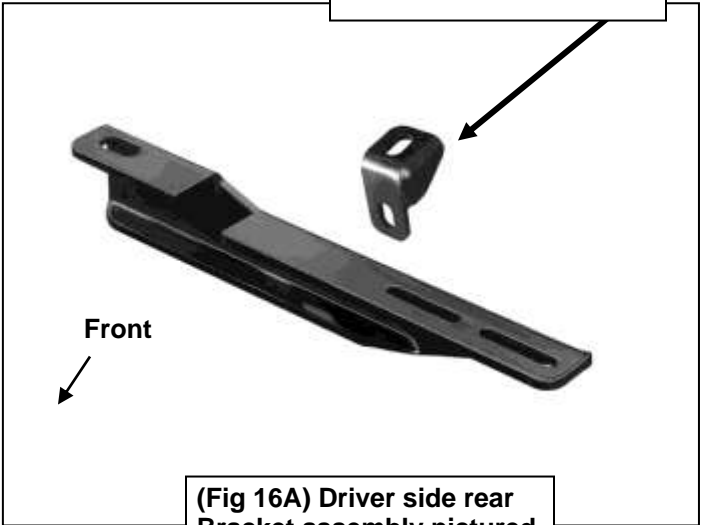

Fig 15A
12. Select (1) 10mm x 35mm Long Bolt Plate, **(Figure 15A)**. Locate the oval hole toward the rear of the inner frame rail. Insert the Bolt Plate into the oval hole and back out the round hole just in front of the oval hole, **(Figure 15B)**.